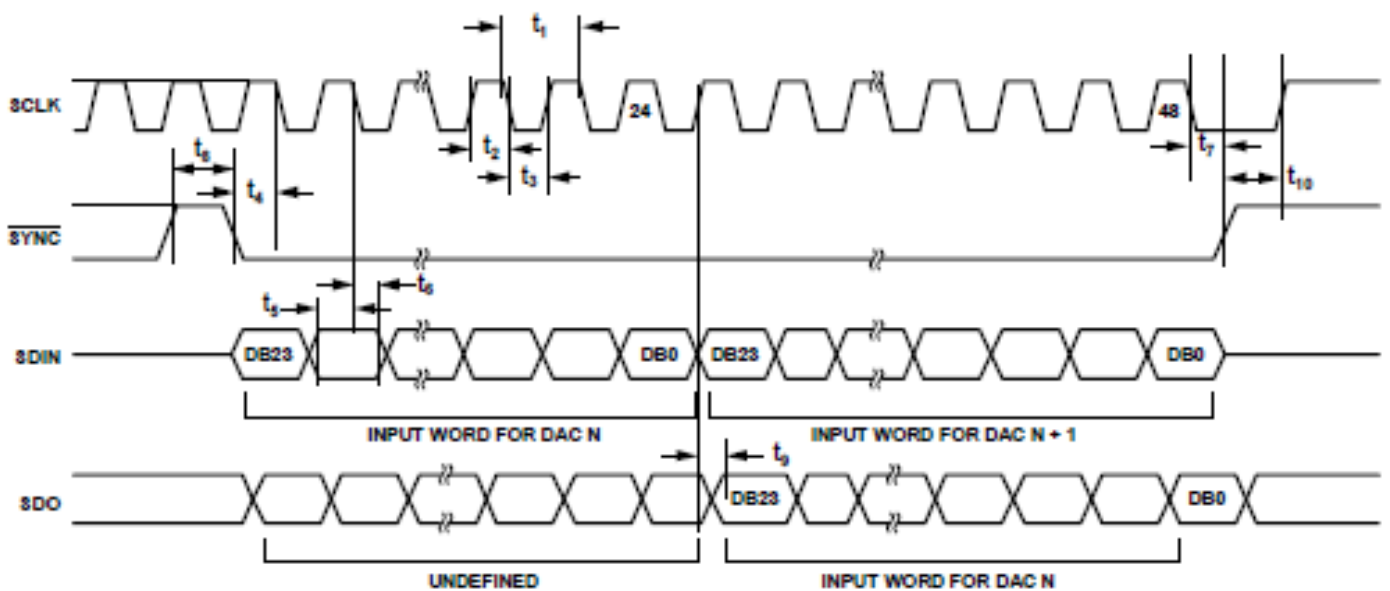
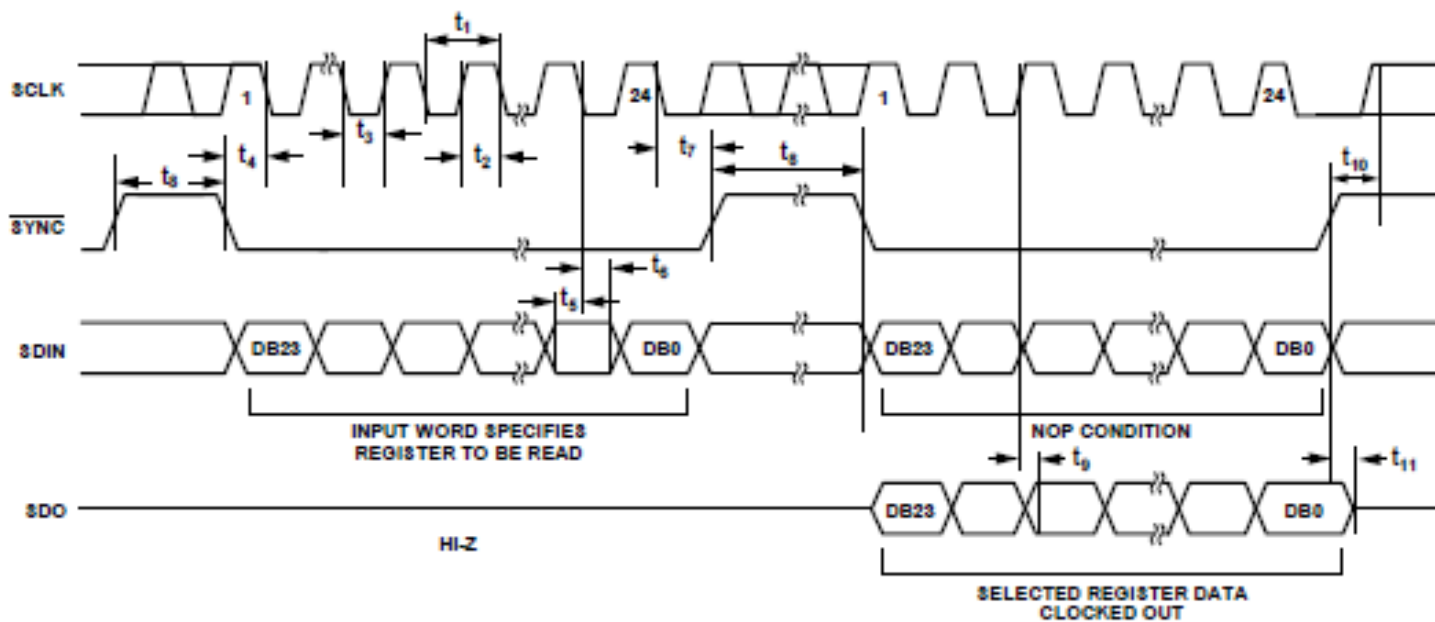

FIGURE 7. Daisy-Chain Timing Diagram.
FIGURE 8. Readback Timing Diagram.
- 20/ All input signals are specified with  $t_R = t_F = 1\text{ ns/V}$  (10% to 90% of  $V_{DD}$ ) and timed from a voltage level of  $(V_{IL} + V_{IH})/2$ . See Figure 7 and Figure 8.  $V_{DD} = 2.7\text{ V to }5.5\text{ V}$ ,  $1.62\text{ V} \leq V_{LOGIC} \leq 5.5\text{ V}$ ;  $V_{REF} = 2.5\text{ V}$ . All specifications  $T_{MIN}$  to  $T_{MAX}$ , unless otherwise noted.  $V_{DD} = 2.7\text{ V to }5.5\text{ V}$ .